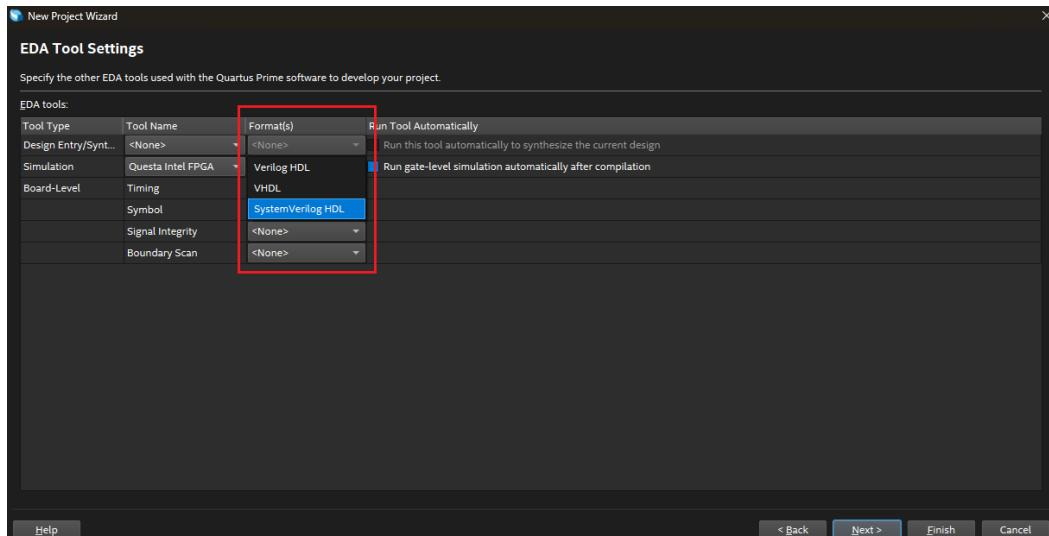

Figure 3. EDA Tool Settings
10. In the EDA Tool Settings, on the second row under the Format(s) column, select **SystemVerilog HDL** as shown in Figure 3. Click **Next** to continue.